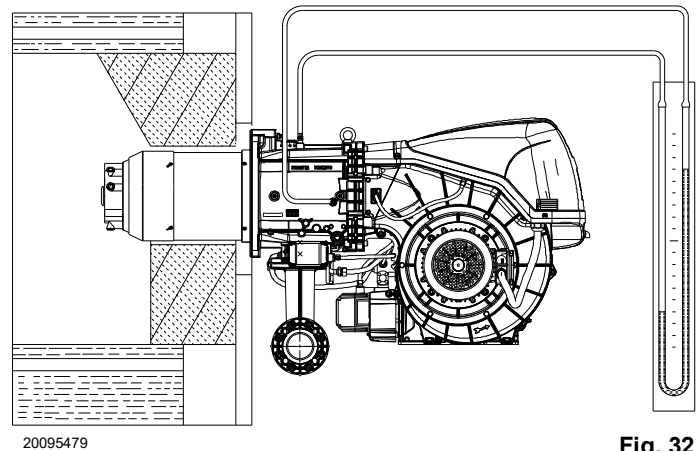

Fig. 32
- Fit a U-type manometer (Fig. 32) to the gas pressure test point on the sleeve. The manometer readings are used to calculate MAX. burner power using the Tab. O on page 31.